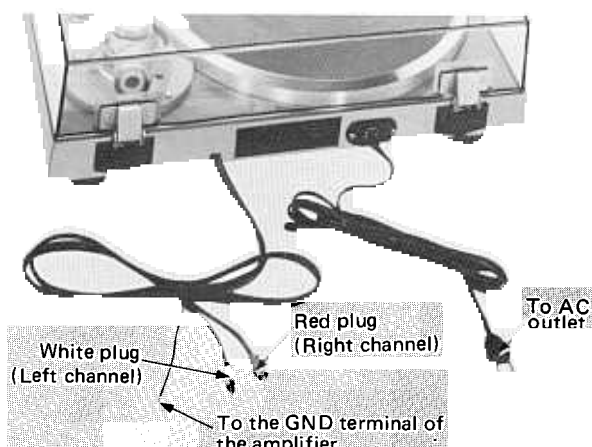

Fig. 3
4. Connection to a stereo amplifier (See Fig. 3)